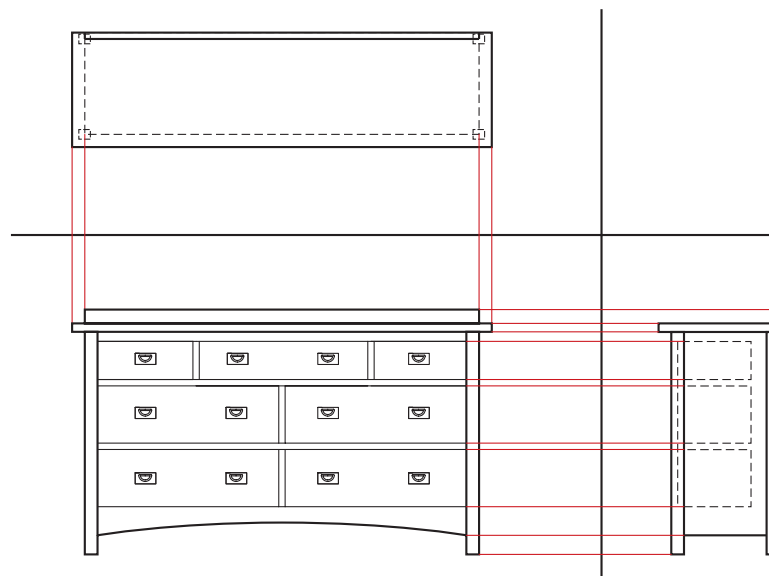

Figure 4-13
**Side** Project the heights of the chest, plate rail, and drawers horizontally over from the front view. Note that in Figure 4-13 the drawers are indicated with hidden lines because they can't be seen.